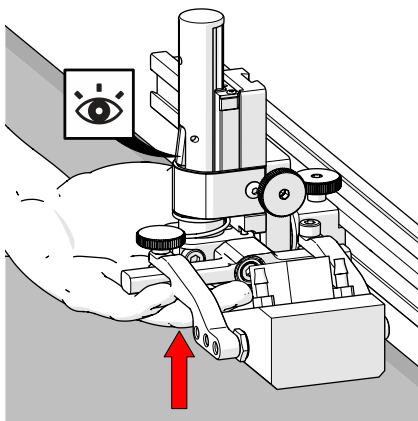
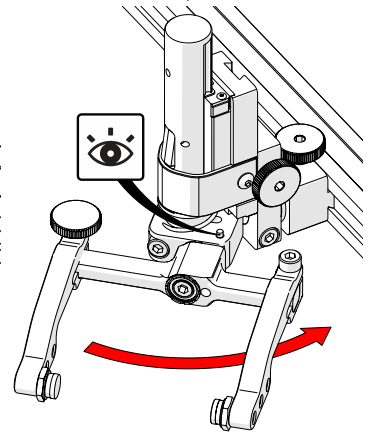

Fig. 127 - Latch probe holder
Fig. 133 - Stop post locates 90°
holder until the latch is fully exposed and snaps out to lock (Fig. 127).
1. Ensure the probe holder is in the latched upper position (Fig. 127).
To return the transverse adjustment to neutral (90°). The probe holder must be in the latched, upper position (*Fig. 127*). Rotate the yoke until the stop post contacts the base of the probe holder (*Fig. 133*). Then tighten the transverse adjustment screw.
1. Ensure the probe holder is in the latched upper position (*Fig. 127*).